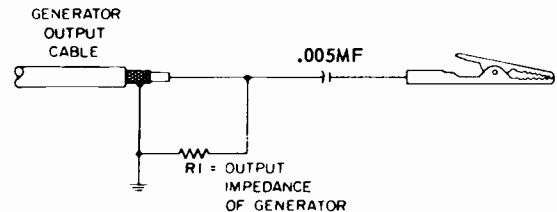

Figure 8 - Generator cable termination.
Generators - Except where otherwise noted, all signal generating equipment should be terminated as shown in Figure 8. Connect the signal cable ground near the ground of the stage where the signal is injected. Adjust the CW generator output so that: (1) When the VTVM is being used its reading remains near the -1 volt point. (2) When the oscilloscope is being used the marker frequencies do not distort the response curve.